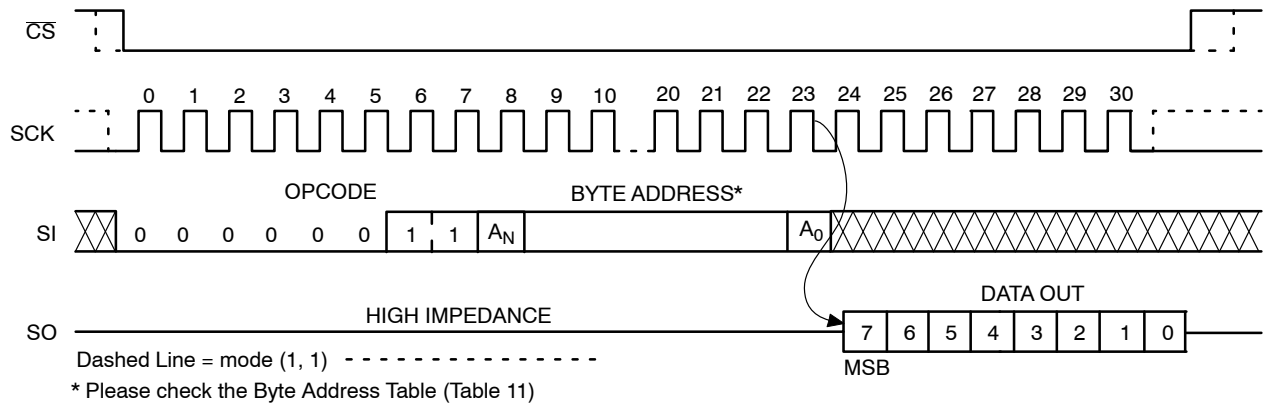

Figure 9. READ Timing
After receiving the last address bit, the CAT25512 will respond by shifting out data on the SO pin (as shown in Figure 9). Sequentially stored data can be read out by simply continuing to run the clock. The internal address pointer is automatically incremented to the next higher address as data is shifted out. After reaching the highest memory address, the address counter “rolls over” to the lowest memory address, and the read cycle can be continued indefinitely. The read operation is terminated by taking  $\overline{\text{CS}}$  high.
Reading the additional 128-byte Identification Page (IP) is achieved using the same Read command sequence as used for Read from main memory array (Figure 9). **The IPL bit from the Status Register must be set (IPL = 1) before attempting to read from the IP.** The [A6:A0] are the address significant bits that point to the data byte shifted out on the SO pin. If the  $\overline{\text{CS}}$  continues to be held low, the internal address register defined by [A6:A0] bits is automatically